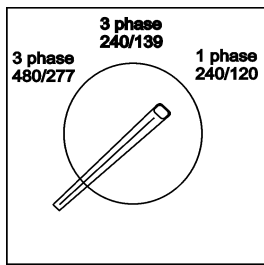

Figure 20. Voltage Selection Switch
5. Check the voltage selection switch (Figure 20) is at the desired voltage.